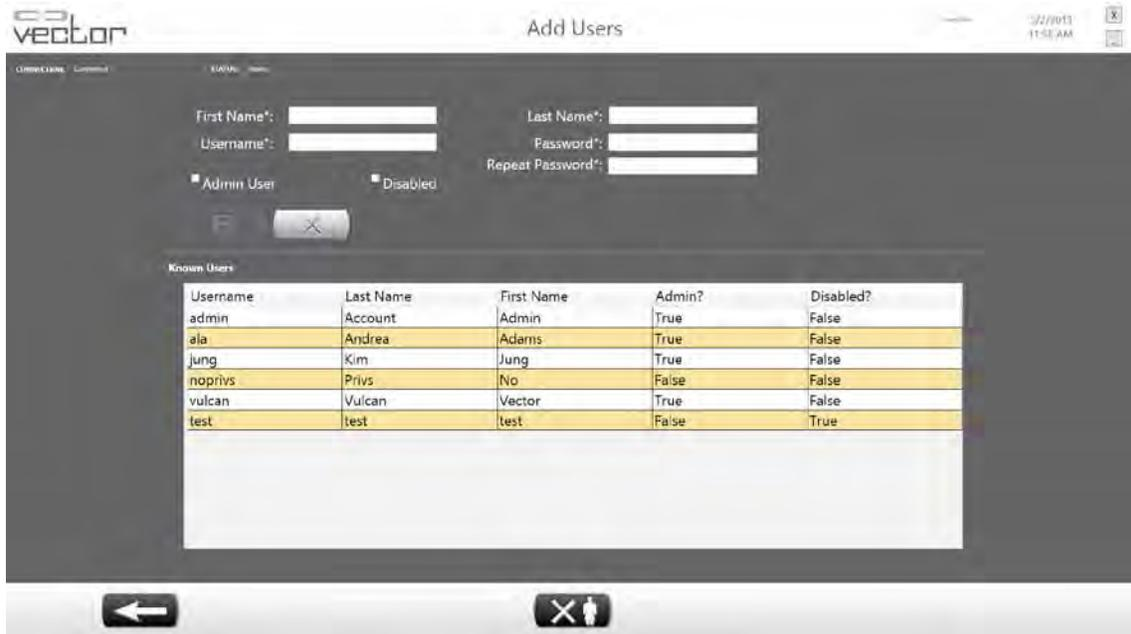

Figure 8-5: Add Users Screen
2. This will open the Add Users screen. See Figure 8-5.
1. Enter in data in all fields with an asteric (\*). This is when the username and passwords are set for each log-in account. See Figure 8-5.
1. Select Therapists name from the “Known Users” list. See Figure 8-5.